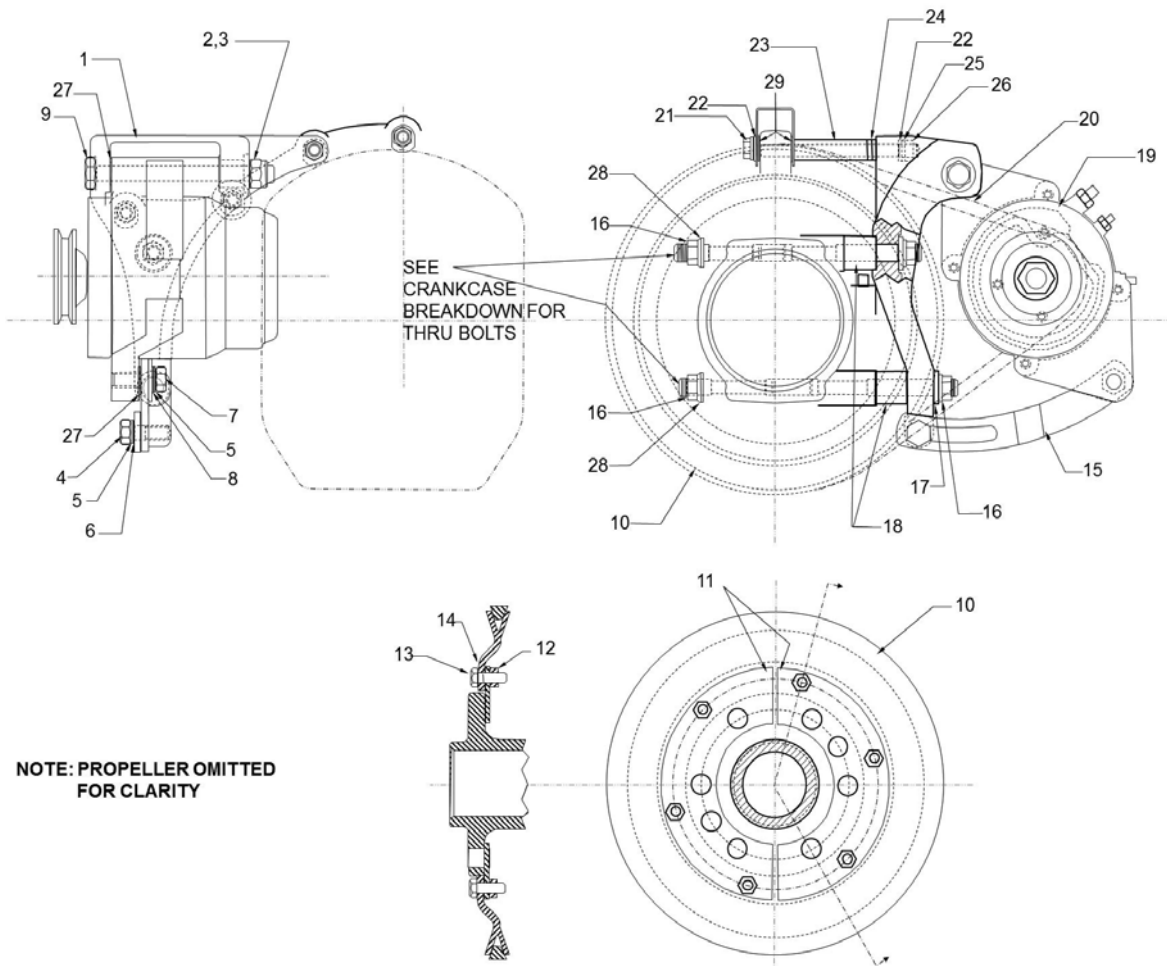

Figure 2. 70 Amp Belt-driven Alternator Assembly
2. Align the holes on the drive sheave (Figure 2, item 10) with the propeller flange holes.
3. Align the split sheave adapters' (11) bolt holes with those in the drive sheave (10).
CAUTION: Inserting an incorrect combination of shims (Figure 2, item 24) at the upper mounting location may hinder the proper alignment of the bracket to the engine crankshaft.
- c. Align the throttle assembly bracket and two washers (Figure 2, item 29) with the crankcase bolt hole; insert a bolt (21), with washer (22), through the 1-3-5 side of the throttle body bracket.
- d. Place a spacer (23) on the exposed end of the 2-4-6 side of the bolt (21). Add a combination of shims (24, (P/Ns 646447-1, 646447-2, or 646447-5)), as required, to fill the space between the spacer (23) and the bracket assembly (1).
- e. Align the bracket assembly (1) with the crankcase assembly and upper and lower through-bolts. Secure the bracket assembly (1) to the crankcase with a washer (22), lock washer (25), and nut (26).
11. Measure the gap between the outboard alternator mounting boss and the lower brace with a caliper to determine the number of shims (Figure 2, item 27) to completely fill the gap between the adjustable brace (15) and the alternator mounting boss (19). No gap is permitted between the two surfaces; the thickness of the shims to fill the gap may exceed the distance between the brace and alternator by up to 0.031”.